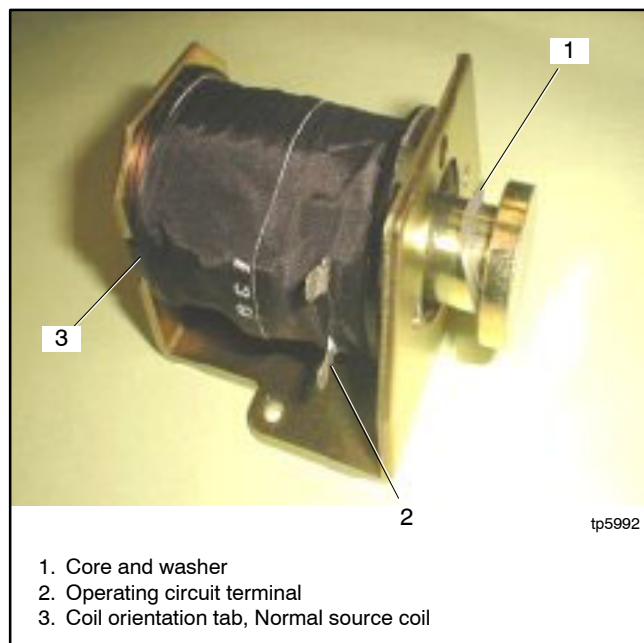
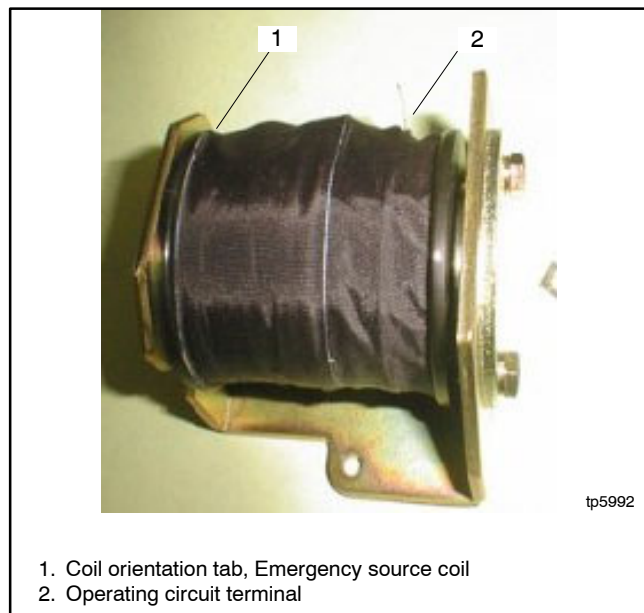

Figure 7-12 Coil Assembly, Normal Source Coil Shown (note the coil orientation)
Figure 7-13 Emergency Source Coil Assembly (note the coil orientation)
1. Position the coil in the bracket with the tab on the top of the coil and operating circuit terminal oriented as shown in Figure 7-12 for the Normal source coil or in Figure 7-13 for the Emergency source coil.
2. Insert the steel core with washer into the coil. See Figure 7-12.